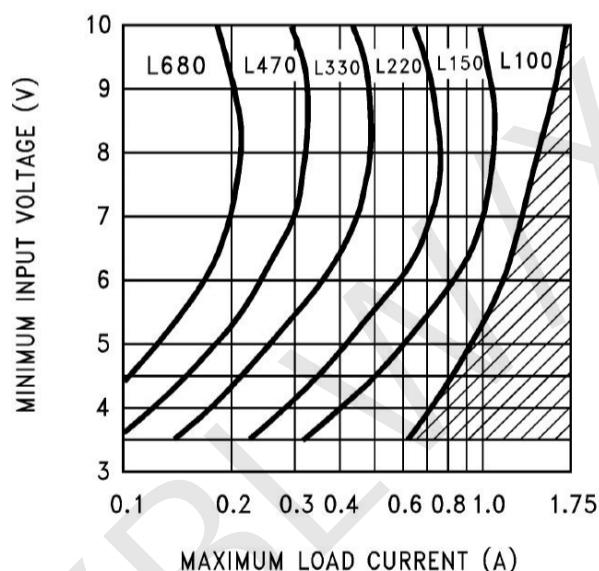
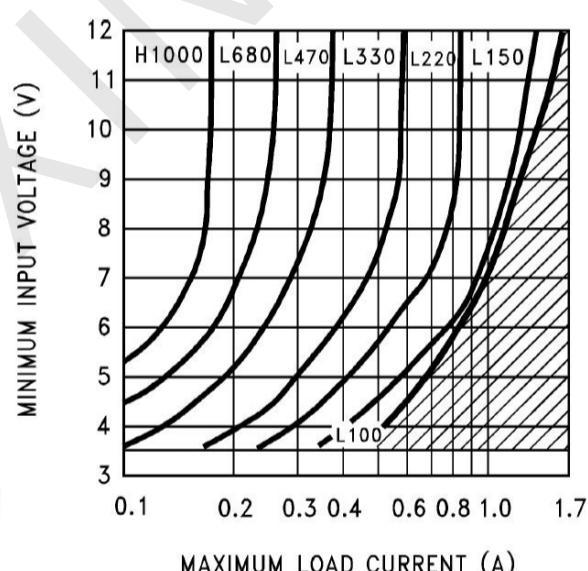

FIGURE 7. LM2577-12 Inductor Selection Guide
FIGURE 8. LM2577-15 Inductor Selection Guide
1. Inductor Selection (L)
- For 12V or 15V output From Figure 7 (for 12V output) or Figure 8 (for 15V output), identify inductor code for region indicated by $V_{IN\ (min)}$ and $I_{LOAD\ (max)}$. The shaded region indicates conditions for which the LM2577 output switch would be operating beyond its switch current rating.